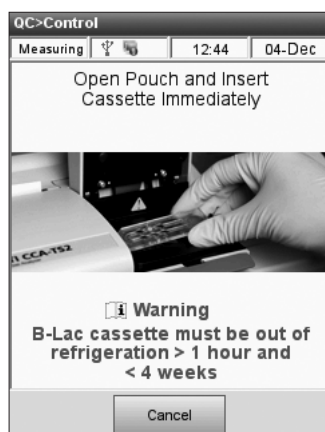

Fig. 4-20 B-Lac Open Pouch
- Tear open the cassette pouch and remove the cassette (Fig. 4-20).
- Insert the cassette into the chamber. Press down to ensure that the cassette is seated properly (Fig. 4-20).